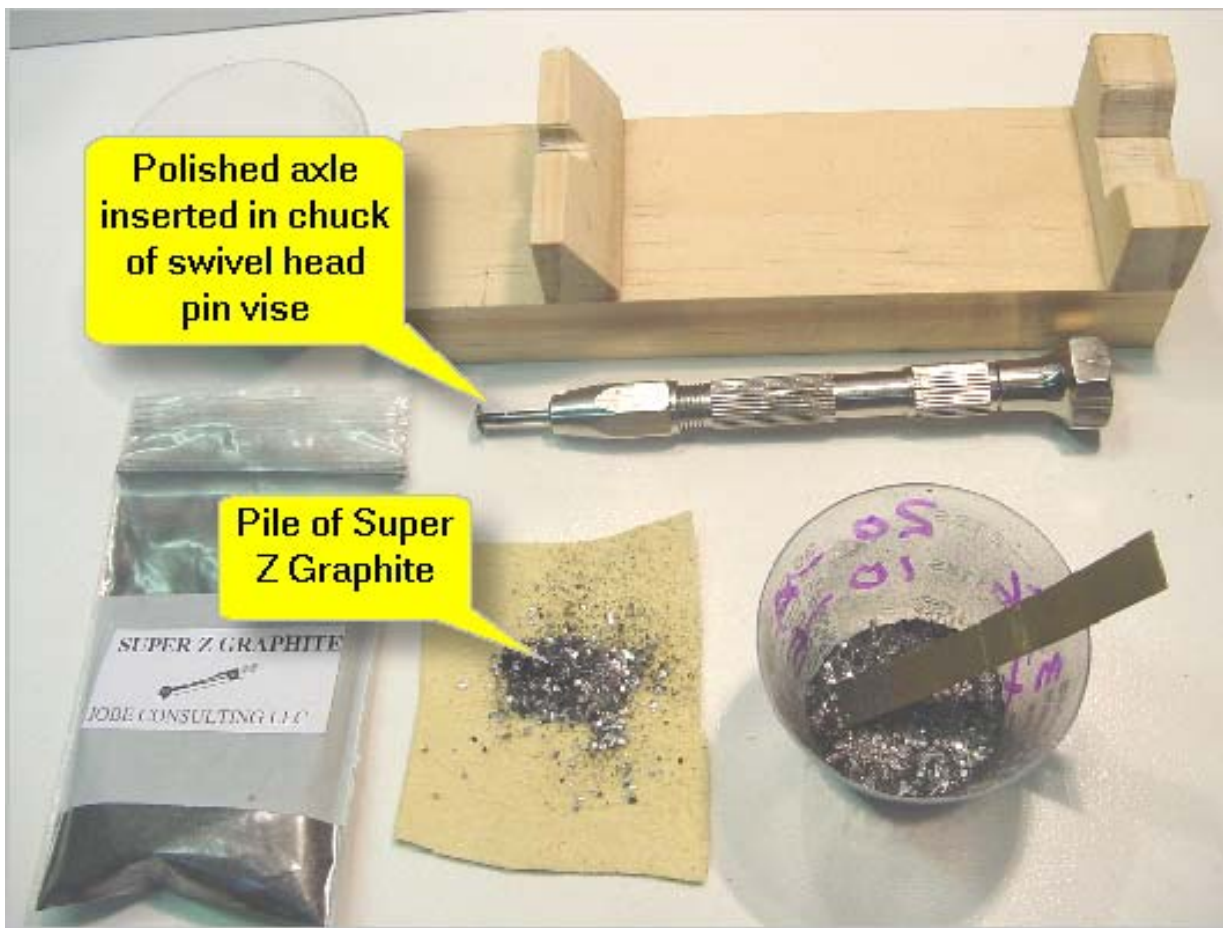

Figure 12 - Chuck axle in swivel-head pin vise and put Super Z graphite on the application cloth..
- First make a small pile of Super Z graphite on the application cloth as in **Figure 12**.